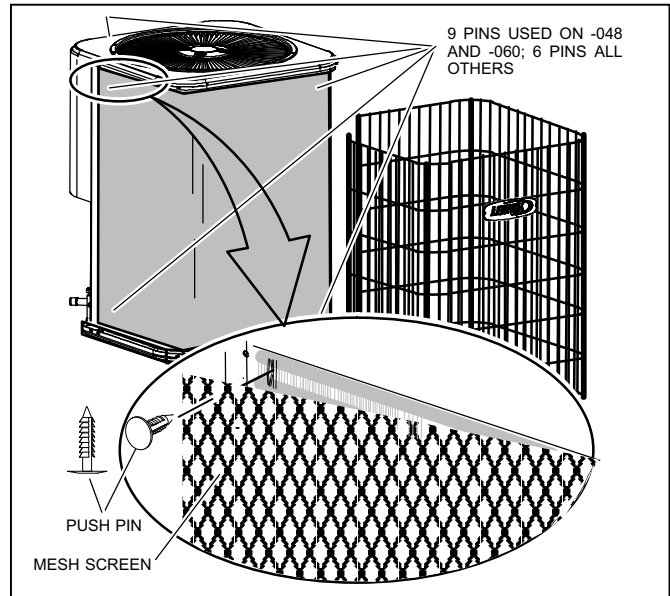

Figure 23. Cleaning Debris from Mesh
- The outdoor coil is protected by an inner mesh screen and a wire cage (see figure 23). If debris has collected between the mesh screen and the coil and cannot be dislodged by spraying unpressurized water from inside coil surface to the outside, the mesh may be removed by first removing the top of the unit which will allow for removal of the wire cage.